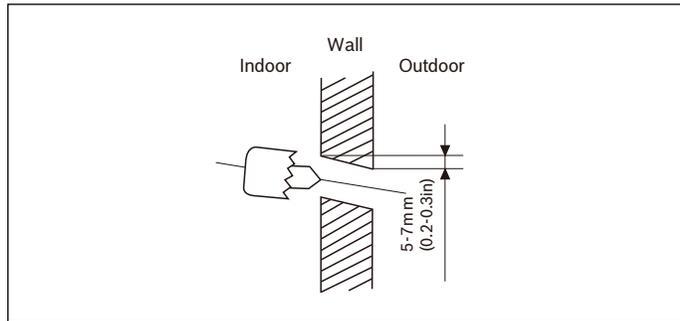

Figure 4
2. Using a 65-mm (2.5in) core drill, drill a hole in the wall. Make sure that the hole is drilled at a slight downward angle, so that the outdoor end of the hole is lower than the indoor end by about 5mm to 7mm (0.2-0.275in). This will ensure proper water drainage. (See Fig. 4)